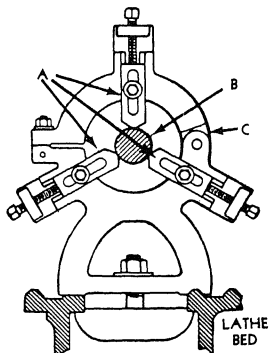

Figure 7-33.—Center rest
2. To support and provide a center bearing for one end of work, such as a spindle, being bored or drilled from the end when it is too long to be supported by the chuck alone. The center rest, kept aligned by the ways, can be clamped at any desired position along the bed, as illustrated in figure 7-33. It is important that the jaws A be carefully adjusted to allow the work B